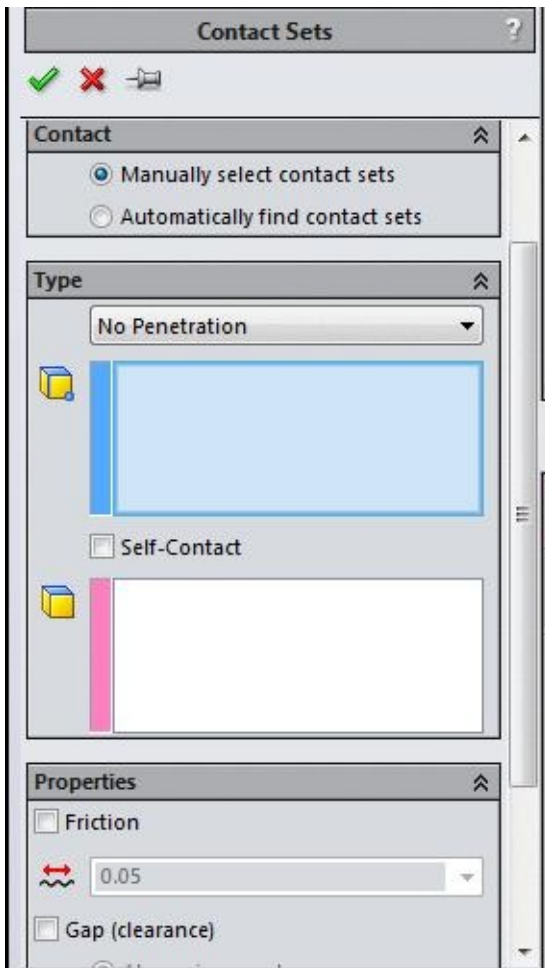

Figure-60. Contact Sets PropertyManager
- Click on the **Contact Sets** button from the **Connections Advisor** drop-down. The **Contact Sets PropertyManager** will display as shown in Figure-60.